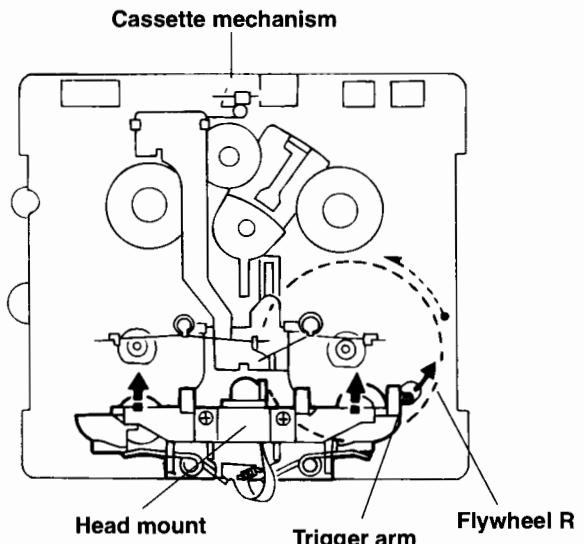

Fig.11
■ Playback, Recording and Eraser Heads Removal (See Fig.11)
1. While shifting the trigger arms seen on the right side of the head mount in the arrow direction, turn the flywheel R in counterclockwise direction until the head mount has gone out with a click (See Fig.11)